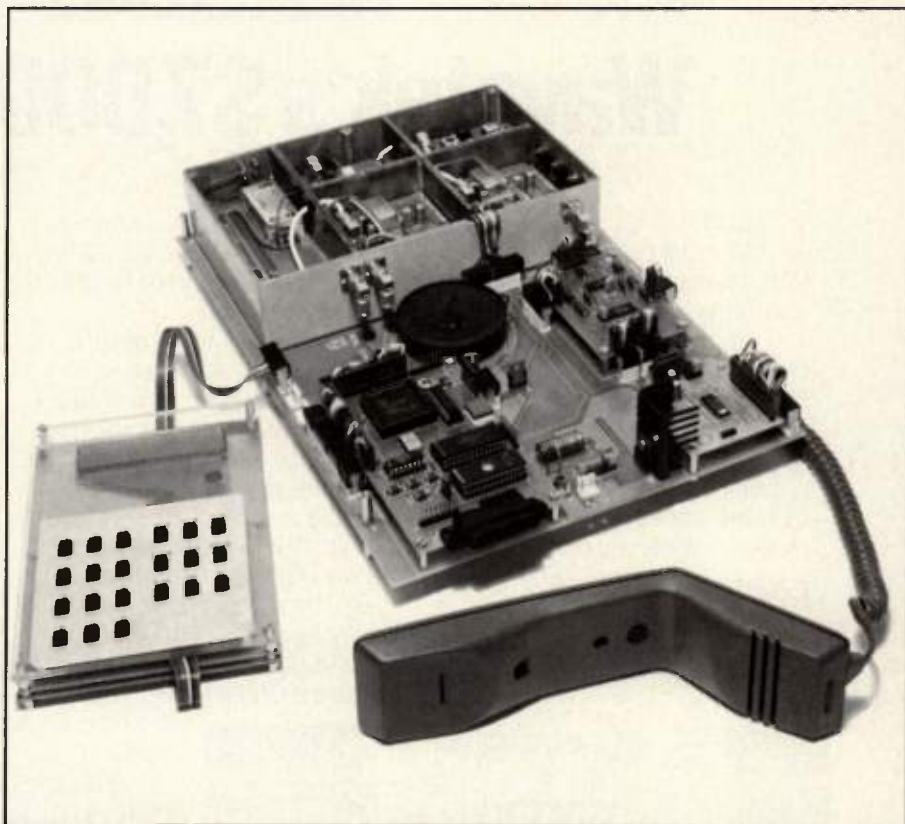

Figure 2. An evaluation system is available to demonstrate the use of the chip set.
applications support is available, including an evaluation system which includes this chip set, plus additional circuitry to make a complete and functioning cellular telephone (Figure 2). For more information on this chip set and Signetics/Philips efforts to support the cellular industry, contact Matt Robison at Signetics Company, MS-79, P.O. Box 3409, Sunnyvale, CA 94088-3409. The telephone number is (408) 991-4535. Information may also be obtained by circling INFO/CARD #181.